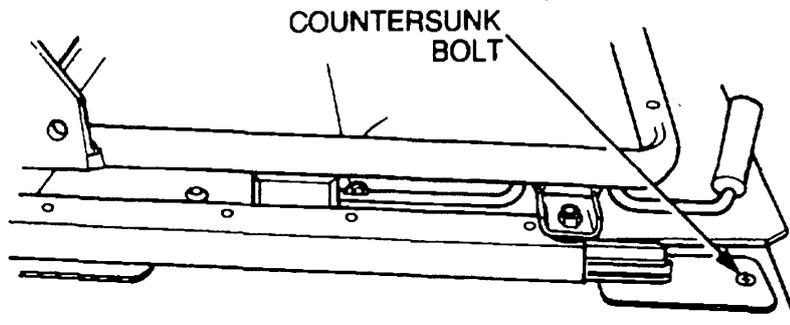

Figure 206 Cabin Seat Removal
- b. Remove the two countersunk screws at the front of the frame (Figure 206).